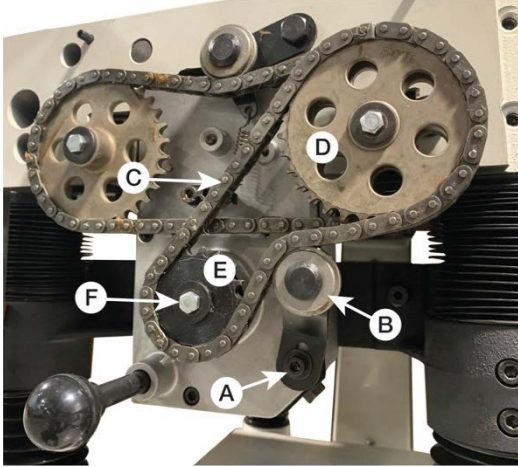

Figure 28
5. Loosen the lower idler mounting bolt (A, Figure 28) and rotate lower idler (B, Figure 28) away from the outer chain (C, Figure 28).
6. Remove the outer chain from the upper right sprocket (D, Figure 28) and lower gear shaft sprocket (E, Figure 28).
7. Remove the hex cap screw and washer (F, Figure 28) from the lower gear shaft sprocket (E, Figure 28).
10. Rotate lower idler (B, Figure 28) to contact the chain as shown in Figure 28. Tighten the lower idler mounting bolt (A, Figure 28).